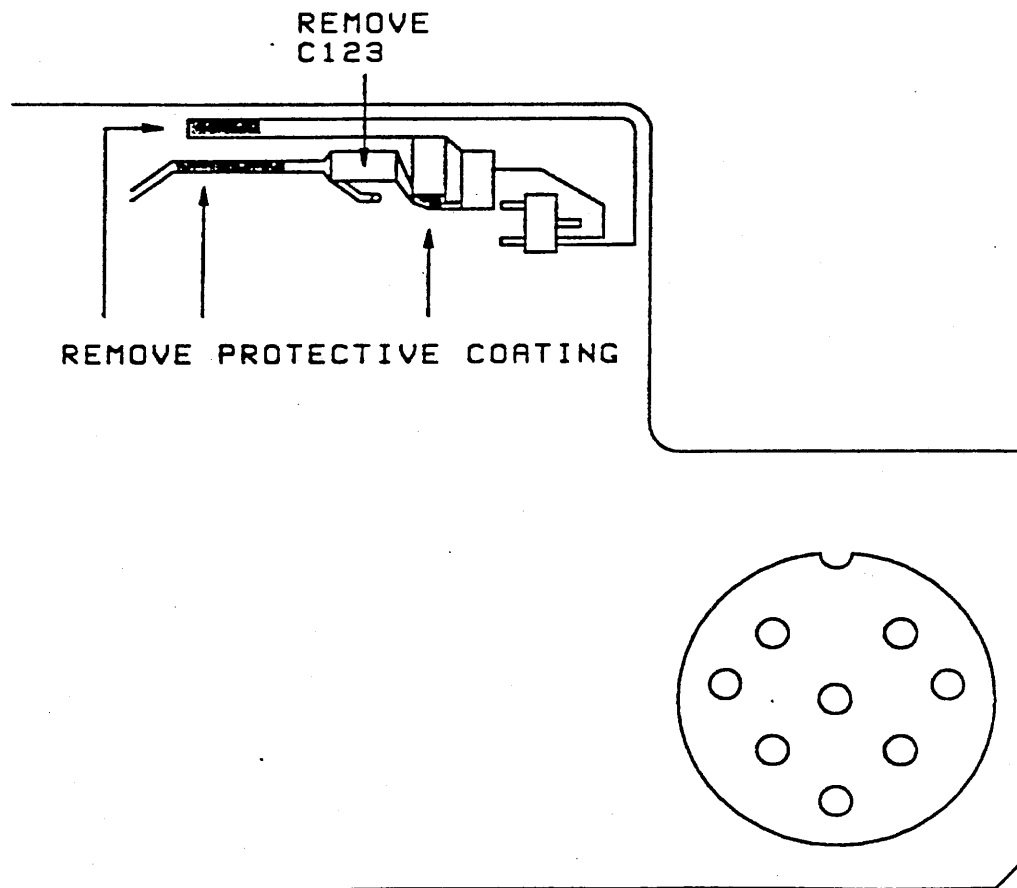

FIGURE 11
24. Remove C123. This chip capacitor is located in the corner of the board under the LCD assembly. **Figure 11**
25. Remove the protective coating from the foils as shown in **Figure 11**.